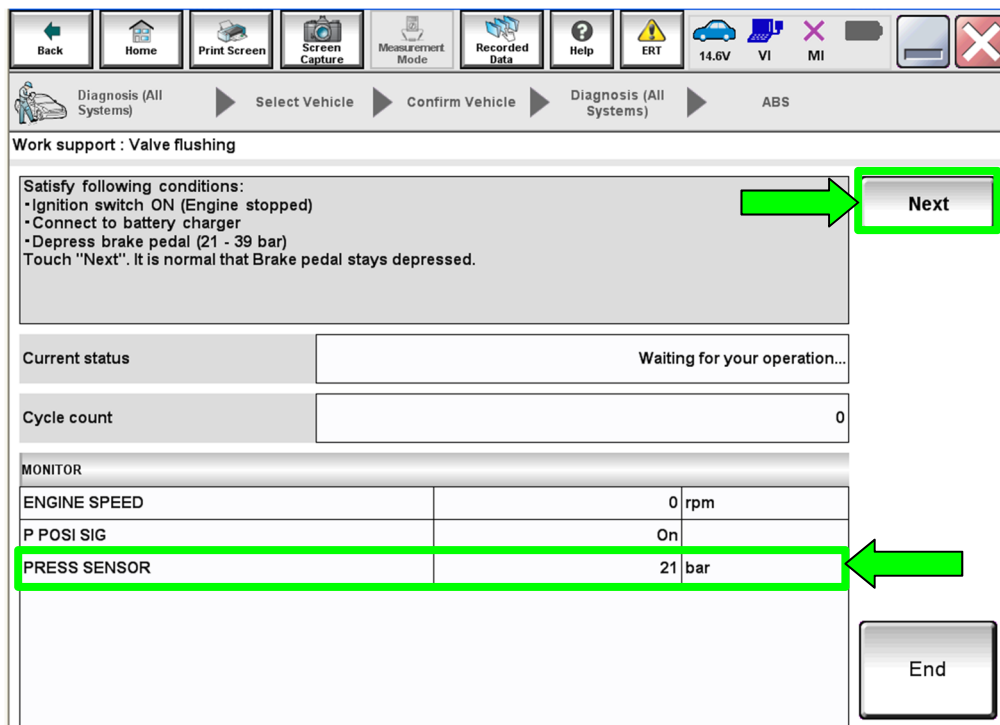

Figure 11
19. Press the brake pedal to raise the brake pressure to 21-39 bar (Figure 11).